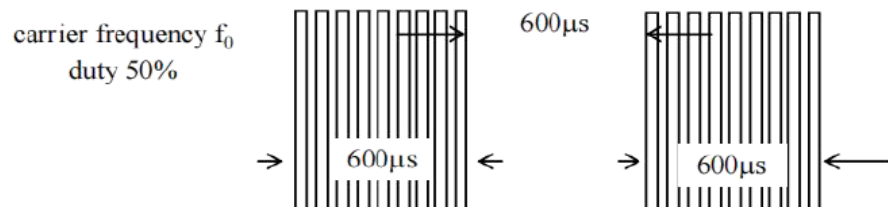

Fig 1. Burst Wave
- (1) Measuring place: Indoor without extreme reflection of light.
- (2) Ambient light source: Detecting surface illumination shall be  $200\pm 50$  Lux under ordinary hite fluorescence lamp of no high frequency lighting.
- (3) Standard transmitter: burst wave indicated in Fig1.of standard transmitter shall be arranged to 50mVp-p under the measuring circuit specified in Fig2.